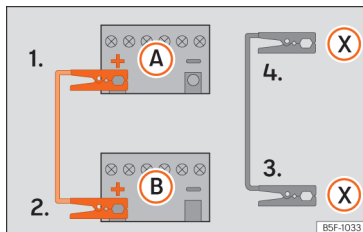

Fig. 196 Wiring diagram for vehicles with a start/stop system.
The jump leads should only be connected in the order **1 > 2 > 3 > 4** »» Fig. 196.
Vehicles with a Start-stop system: connect one end of the black jump lead (X) to a suitable ground terminal, to a solid piece of metal in the engine block, or to the engine block itself »» Fig. 196.
- Connect the other end of the *black* jump lead (X) to a solid metal component bolted to the engine block or to the engine block itself of the vehicle with the flat battery. Do not connect it to a point near the battery A.